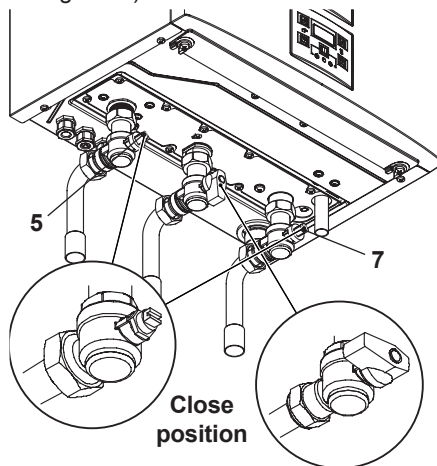

Fig. 10.5
- Close the C.H. isolating valves (5 and 7 in Fig. 10.5).